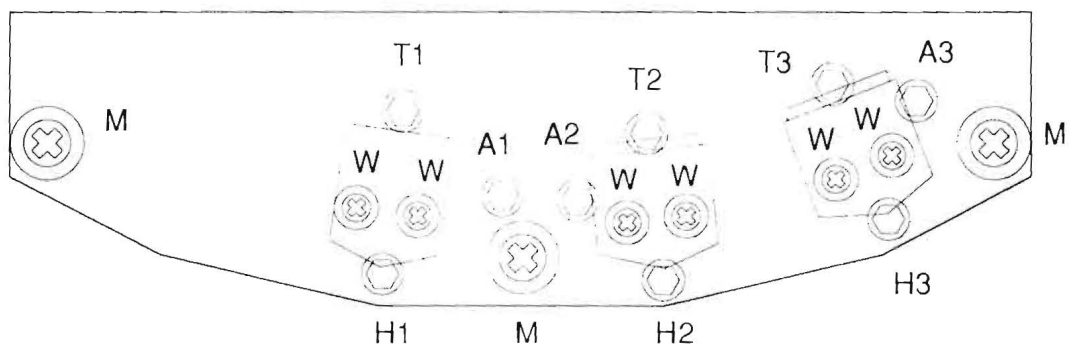

Figure 6-9
The Head Assembly is mounted on the tape guide posts and is attached to the Guide Posts with screws marked "M" (refer to **Figure 6-9**). Each Head Stack is attached to the Head Bracket with screws marked "W", and the Head Brackets are attached to the Head Base with the screws marked "H" "A" and "T". These screws are used to adjust the position of the head.
2. Adjust the head height and zenith visually by turning the screws marked "T" and "H" in Figure 6-9 to move the tape to the middle of the head.
2. Turning the screw marked "W" in Figure 6-9, visually adjust the head so that the tape approaches and leaves the head gap at approximately the same angle. If the level increases by more than 0.5dB when pressing on the tape on the right side of the head, rotate the head clockwise. If the level increases by more than 0.5dB when pressing the tape on the left side of the head, rotate the head counterclockwise.